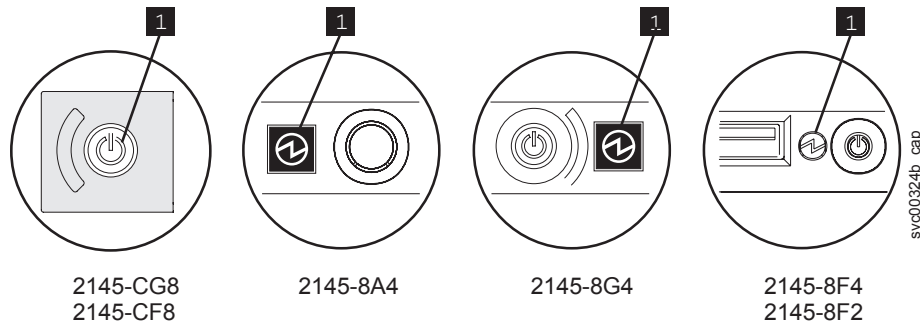

Figure 88. Power LED on the SAN Volume Controller models 2145-CG8, 2145-CF8, 2145-8A4, 2145-8G4, and 2145-8F4 or 2145-8F2 operator-information panel
1. Check the SAN Volume Controller models 2145-CG8, 2145-CF8, 2145-8A4, 2145-8G4, and 2145-8F4 or 2145-8F2 power LED (**1** in Figure 88).